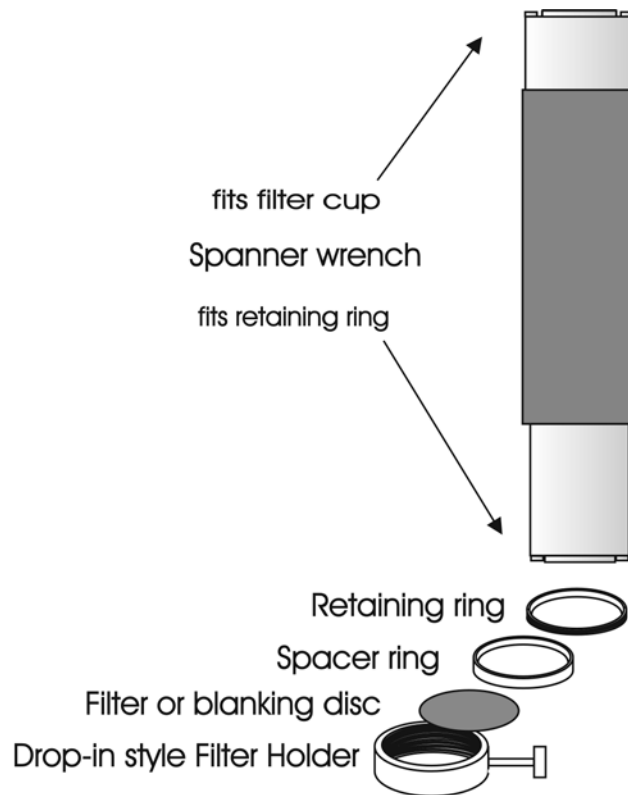

Figure 2-9. Filter holder components
There are at least two components installed into each filter cup or holder before the Lambda 10-2 is shipped: a threaded retaining ring to secure the filter into the cup (or holder), and a spacer ring. In all but one of the filter cups, and in one of the filter holders, there will also be a blanking disc. Figure 2-9 depicts these items using the drop-in filter holder as an example.
- **Retaining Ring.** This ring is threaded on its outside surface and has two slots on its top edge. It is intended that the two slots be used for the removal and installation of the retaining ring when using the spanner wrench that is provided with the Lambda 10-2 (shown in Figure 2-9). Note how the design of the spanner wrench differs between 25, 32, and 50 mm filter sizes.